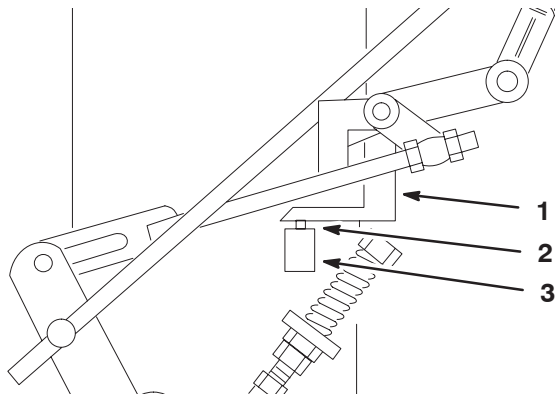

Figure 48
4. Check the orientation of the tabs on the ends of the speed control crank. These tabs should be pointing straight down at the 6 o'clock position approximately (Fig. 48).
5. Adjust the threaded yoke at the bottom of the speed control linkage until the tabs are at the 6 o'clock position (Fig. 48).
7. Check to make sure the safety switch is depressed and there is a 5/16 inch (8 mm) space between the actuating tab and the switch. (Fig. 48).
8. If needed, adjust switch location to create the 5/16 inch (8 mm) space (Fig. 48).